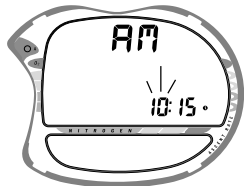

Fig. 25 - Set Hour
- Press the Advance (Front) button **2 more times**. The Time of Day appears with the **Hour** value flashing (Fig. 25).